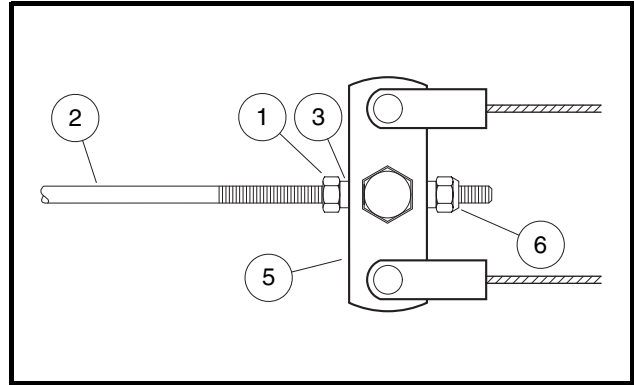

Figure 6-28 Front Equalizer Adjustment
2. **Four-wheel brake vehicles only:** Loosen the front brake equalizer rod (Figure 6-28, Page 6-13).
- 2.1. **Four-wheel brake vehicles only:** Tighten the nylon lock nut (6) on the front equalizer rod (2) to 35 in-lb (4 N·m) (**Figure 6-28, Page 6-13**).
- 2.4. Hold the lock nut (6) on the front equalizer rod (2) in place with a wrench and tighten the jam nut (1) to 13 ft-lb (17.6 N·m) (**Figure 6-28, Page 6-13**).
3. Loosen the equalizer retaining nuts (1 and 6) on the front equalizer rod (2) to slightly loosen the brake cable (**Figure 6-28, Page 6-13**).